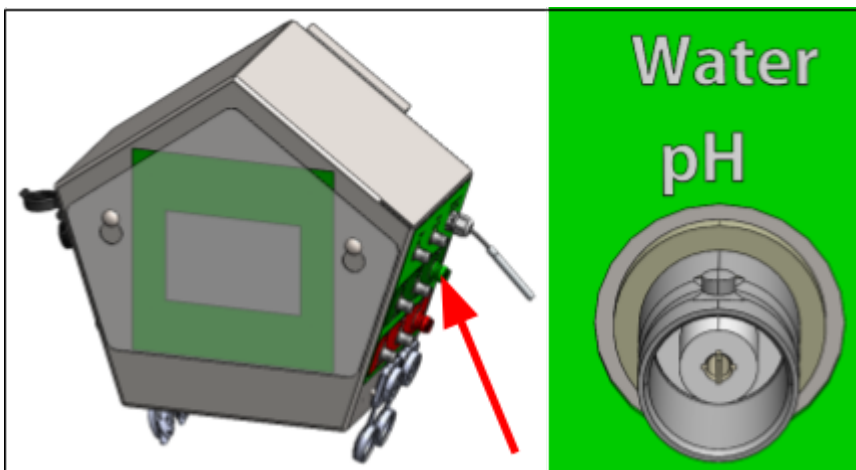

Figure 58.
5. Connect the pH probe cable to the right side of the control box at "Water pH" (See Figure 58).